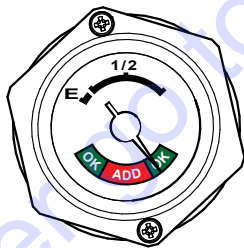

Figure 15. Propane Tank Fuel Gauge
2. Read the propane fuel gauge (Figure 15) located on top of the propane tank.